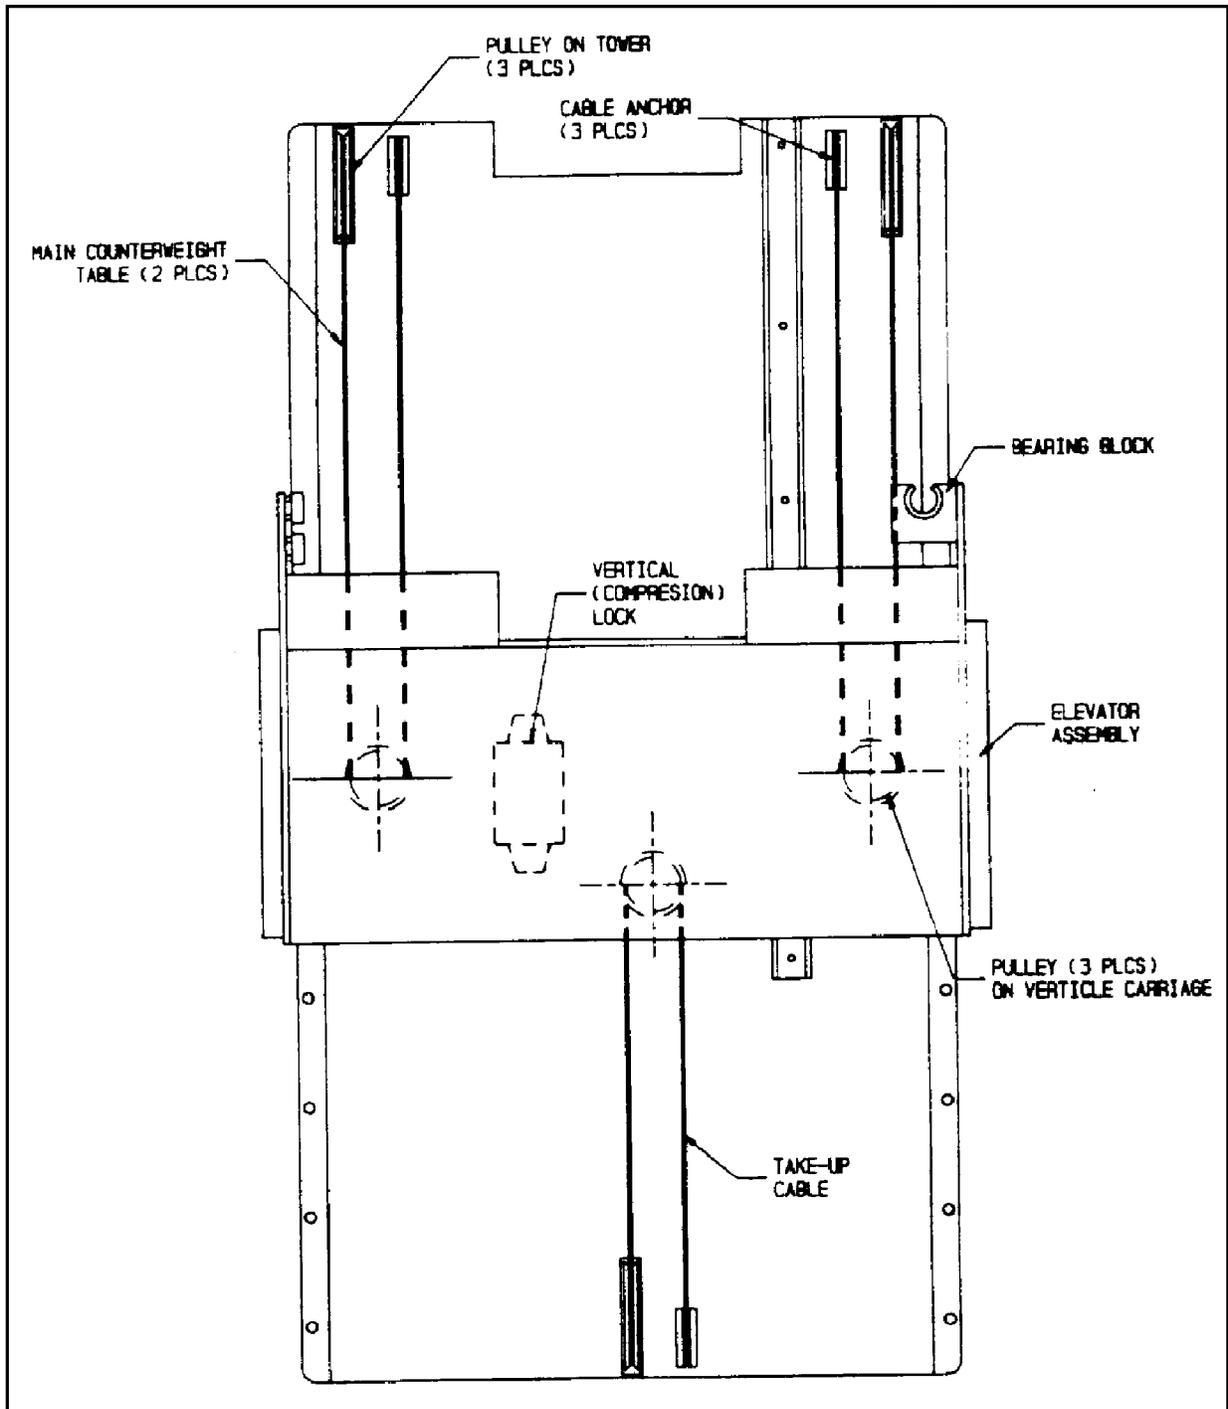

Figure 3-54
**NOTE:** The vertical carriage is connected to the sides of the counterweight holder by means of two cables, one on each end. (See Figure 3-54.)